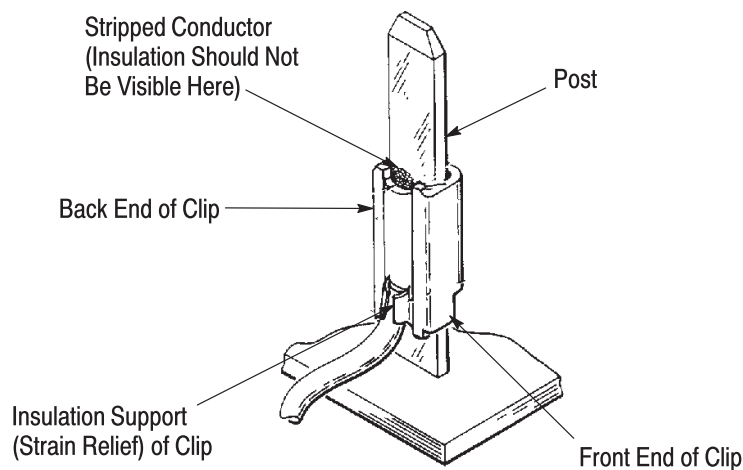

Figure 8
5. Remove the tool from the post. A properly terminated post should appear as shown in Figure 8. Be certain that stripped conductor, *not* the insulation, is visible at the back end of the clip.